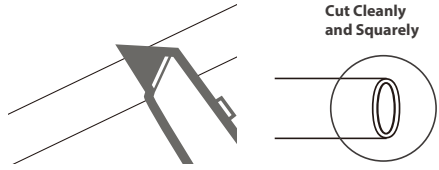

Figure 2
3. If the tubing is too long, cut it to a suitable length using a sharp utility knife or pair of scissors. Cut the tubing squarely and cleanly (Figure2). Make sure the tubing is fully inserted.
1. Rotate the filter element to rotate the easy-to-remove parts with notches as shown in Figure 2.